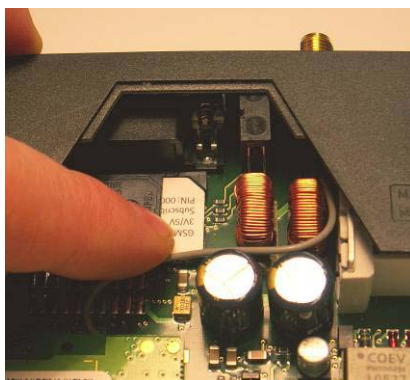

figure 2-10
- Lower the flap paying attention to the notched corner of the SIM card (see figure 2-10).